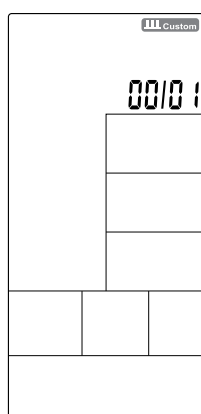

Figure 32
- ① Press INTERVAL to select INTERVAL CUSTOM, press ENTER to enter into this mode then **INTERVAL CUSTOM** 00/XX flashes to be set along with buzzer beeps 1s. Press UP/DOWN to set 00/XX within 1~99 Circularly. Press ENTER to confirm along with buzzer beeps 1s then enter into next setting.(Figure 32)